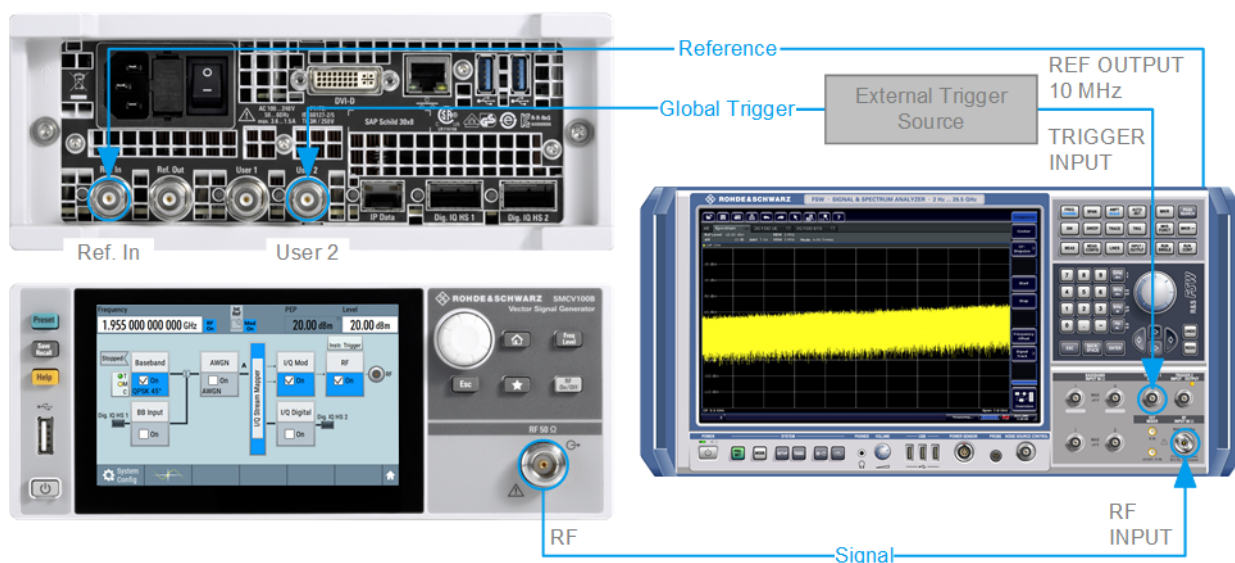

Figure 3-11: Simplified representation of a test setup**
1. Use a suitable cable to connect the external trigger source to the "User" 2 connector of the R&S SMCV100B. See Figure 3-11.
The Figure 3-11 depicts the location of the connectors and explains the connection as principle. In practice, you would rather "substitute" the analyzer by a DUT, like a base station (BS).